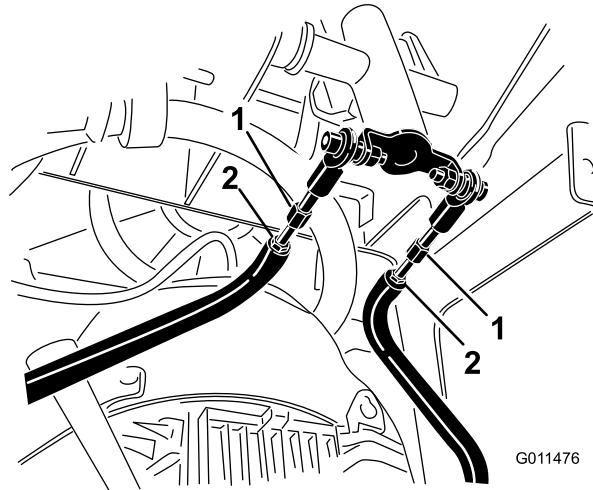

Figure 55
D. Loosen the jam nuts on the traction rods, under the control panel (Figure 55).